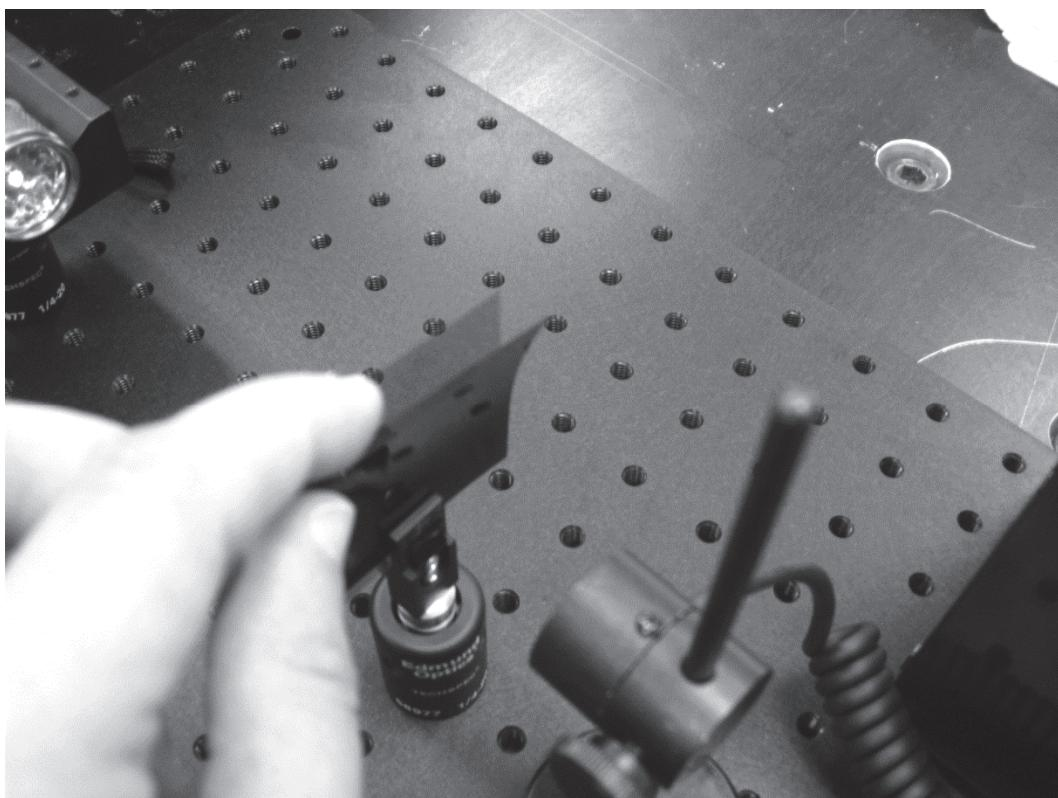

Figure 28 – Power Measurement Set-up for Combination Filters
3. Next, prepare to measure three filter sets. Refer to Figure 28.